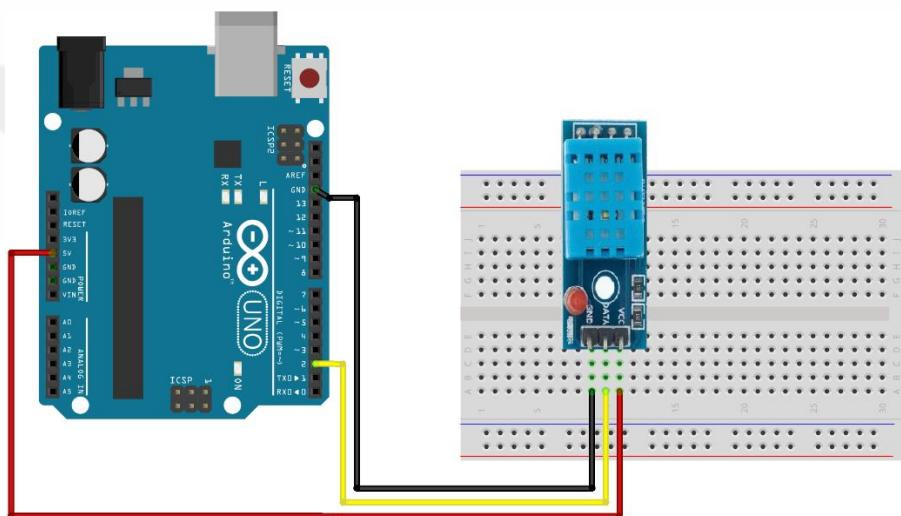

Figure 4.1 – Wiring diagram for DHT11 sensor with Arduino UNO R4 Minima
- Connect the DHT11 sensor as shown in the **Wiring Diagram (Figure 4.1)**.